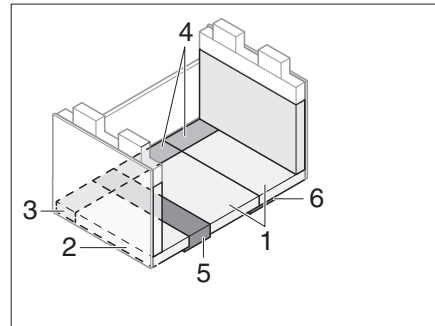

Fig. 183 After conversion
- Lay on the seat, backrest and additional cushions as shown in Fig. 183.
- ▷ In order to achieve higher resting comfort, the cushion insert can be removed from the back cushion (Fig. 183,2).